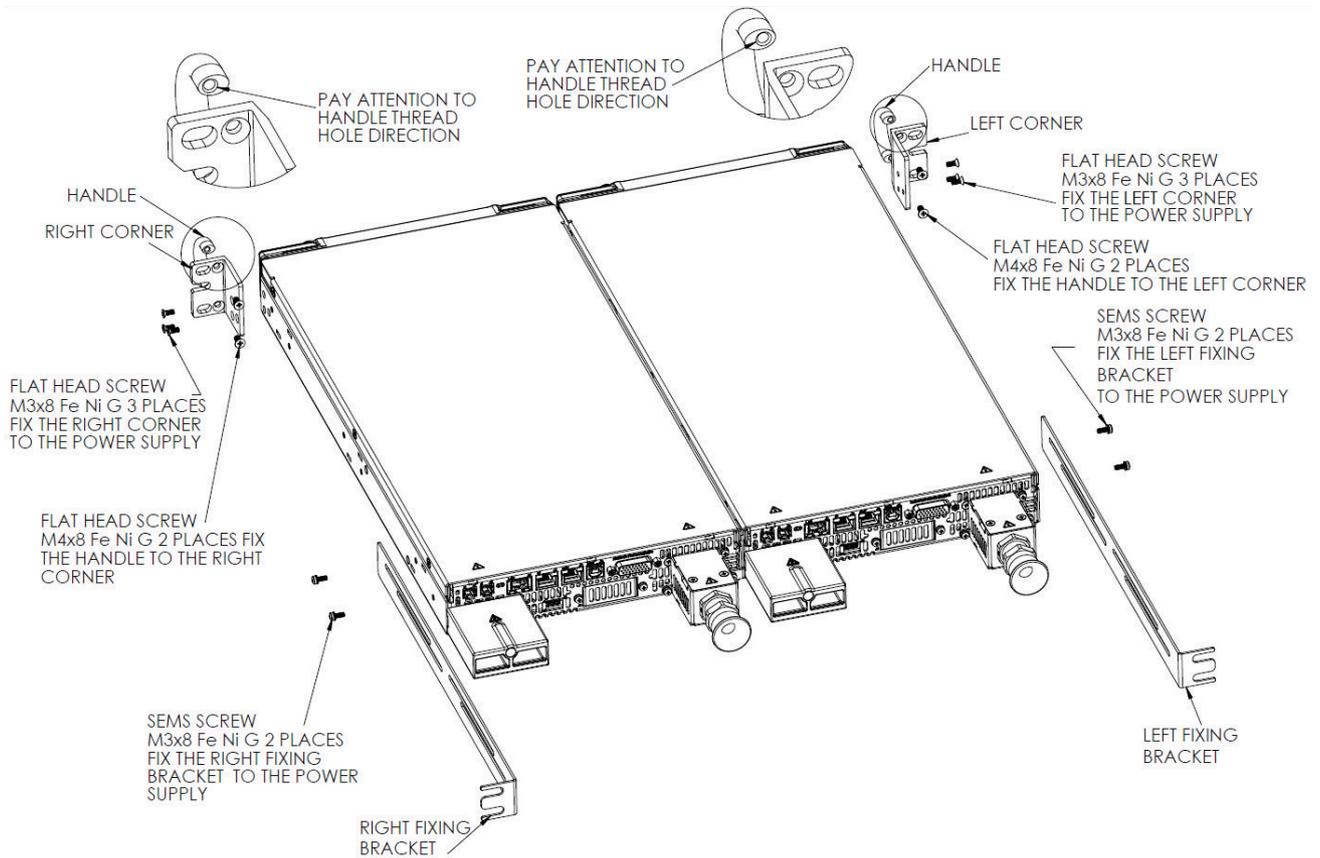

Figure 4-10: Assembly Completion
7. Fix the left and right corners and handles to the front side of the units, and the left and right fixing brackets to the side of the units as shown in Figure 4-10.